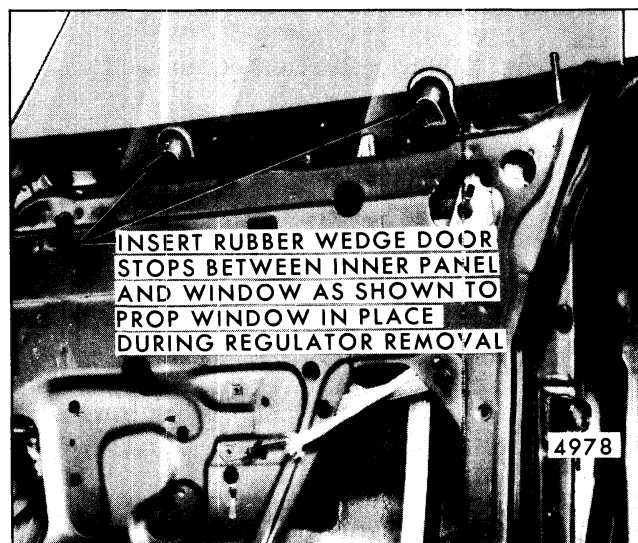

Fig. 5-109-Door Window Propped In Place For Regulator Removal
2. Prop window in full-up position by inserting a rubber door stop between the door inner panel and door glass at front and rear of window (Fig. 5-109).
2. Prop window in full-up position by inserting rubber wedge door stops between window and inner panel (at belt) at front and rear of window (Fig. 5-109).
3. Lower window to half-down position and remove regulator attaching bolts ("4", Fig. 5-46). Disengage regulator lift arm roller from lower sash channel cam and prop window in full-up position using two rubber door wedge stops between inner panel at belt and door window as shown in Figure 5-109. On manual styles, remove regulator assembly through large access hole. On electric styles, rotate regulator assembly clockwise so that motor portion of regulator assembly comes out access hole first.
**NOTE:** On "B" closed styles, raise window to full-up position and prop in place with two rubber wedge door stops between inner panel (at belt) and door window as shown in Figure 5-109.
2. Prop window in half-raised position with rubber door stop wedges as shown in Figure 5-109.